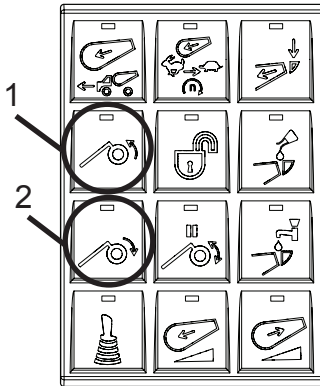

Figure 139
2. Press the Tag Axle function button (UP button is Item 1, and DOWN button is Item 2) on the optional in-cab keypad (Figure 139).